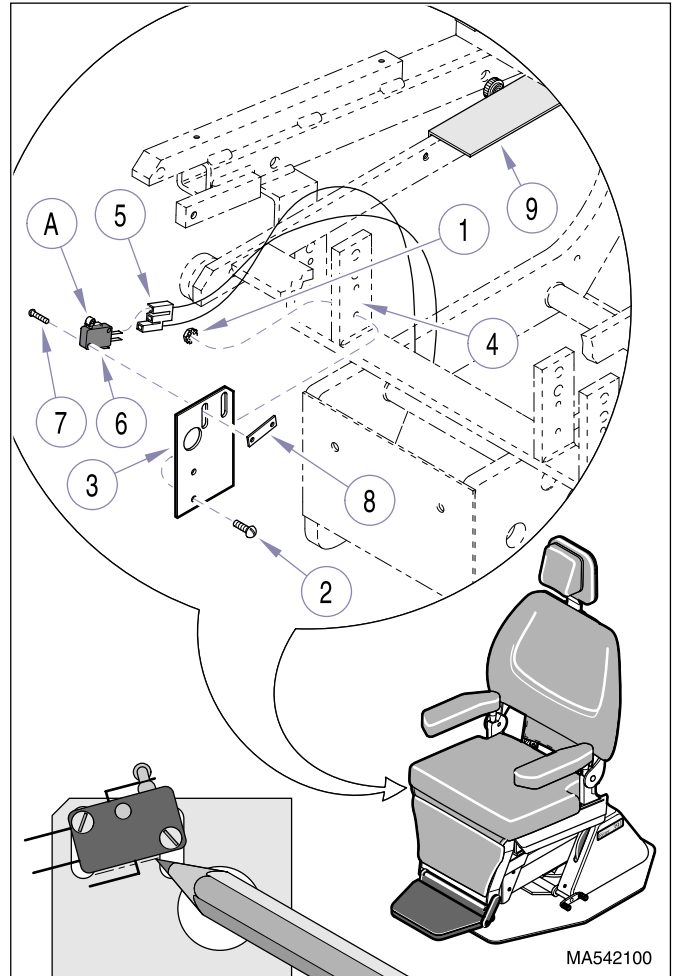

Figure 4-18. Back Down Program Limit Switch Removal / Installation / Adjustment
- (1) Raise Base Up all the way up and lower Back Down function all the way down.
- (2) Unplug chair power cord from wall outlet receptacle.
- (3) Perform steps 2 and 3 of para 4.6 to gain access to top side of limit switch.
- (4) Remove two locknuts (1, Figure 4-18), screws (2), and limit switch bracket (3) from platform weldment (4).